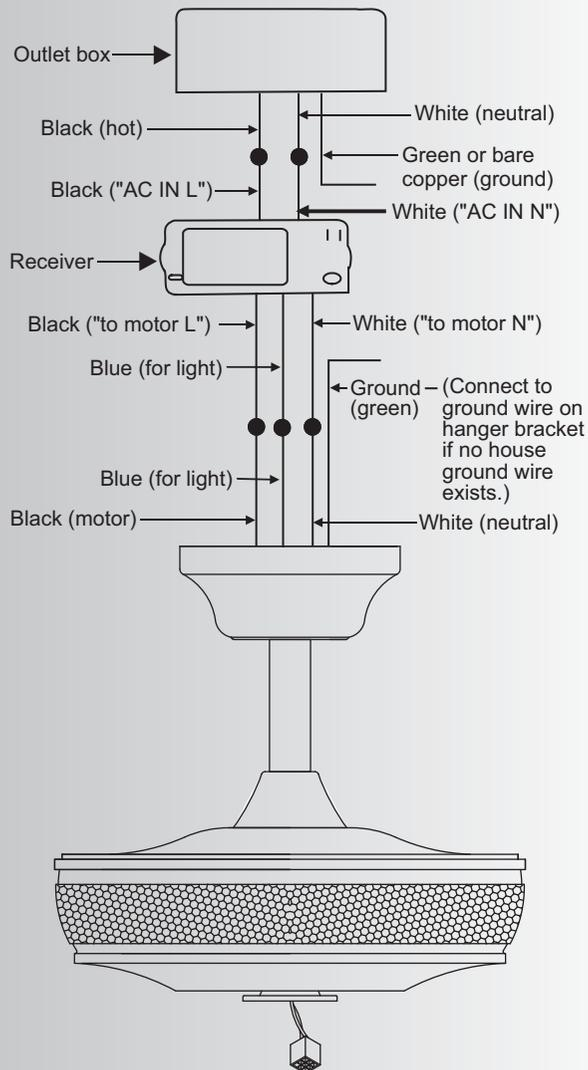

Fig. 14
Connections: (Fig. 14)
### Step 3. (Fig. 14) Receiver to House Supply Wires Electrical Connections:
Step 4. (Fig. 14) If your outlet box has a ground wire (green or bare copper) connect it to the fan ground wires; otherwise connect the hanging bracket ground wire to the mounting bracket. Secure the wire connection with a plastic nut provided. After connecting the wires, spread them apart so that the green and white wires are on one side of the outlet box and black and blue wires are on the other side. Carefully tuck the wire connections up into the outlet box.